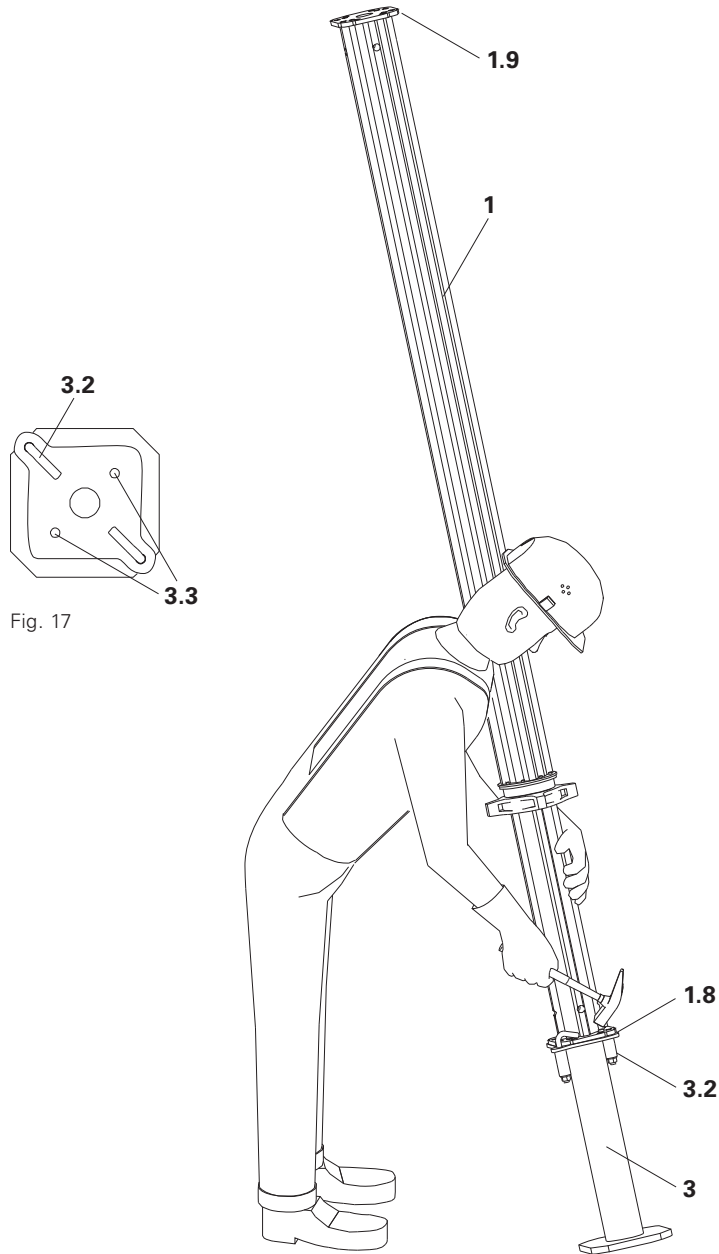

Fig. 18
3. Hit clamping claws (3.2) using a hammer over the prop base plate or head plate. (Fig. 18)